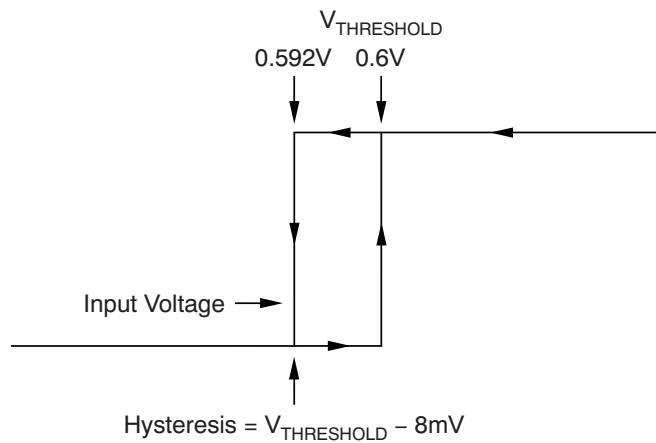

图 1. Typical Comparator Hysteresis
- (1) Hysteresis refers to the threshold (the threshold specification applies to a rising edge of a noninverting input) of a falling edge on the noninverting input of the comparator; refer to 图 1.
- (2) Specified by design.
- (3) V_{ID} refers to the differential voltage at the comparator inputs.
- (4) Open-drain output can be pulled to the range of 2.7 to 18 V, regardless of V_S .
- (5) The comparator response time specified is the interval between the input step function and the instant when the output crosses 1.4 V.
- (6) The $\overline{\text{RESET}}$ input has an internal 2 $\text{M}\Omega$ (typical) pull-down. Leaving $\overline{\text{RESET}}$ open results in a LOW state, with transparent comparator operation.